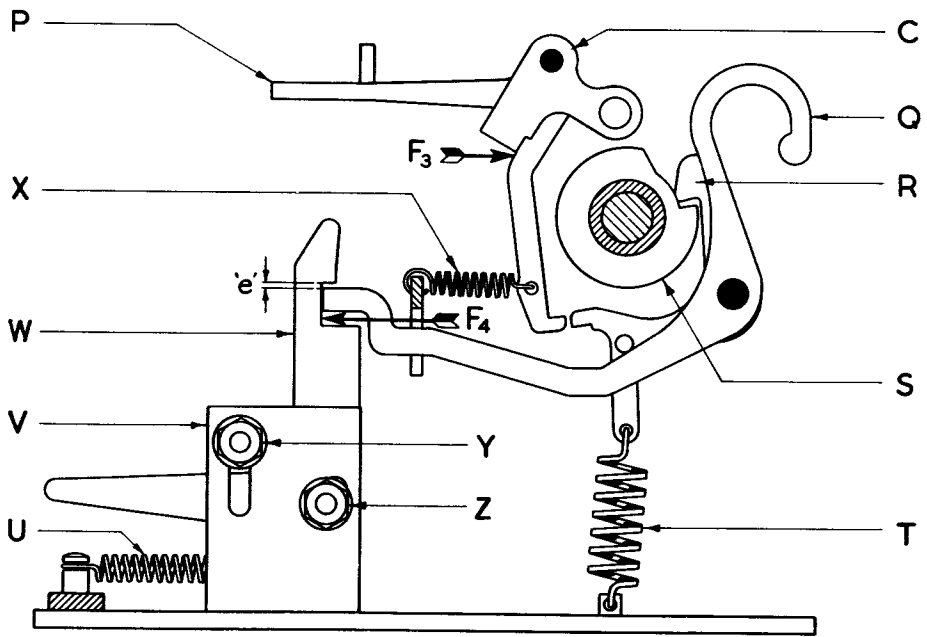
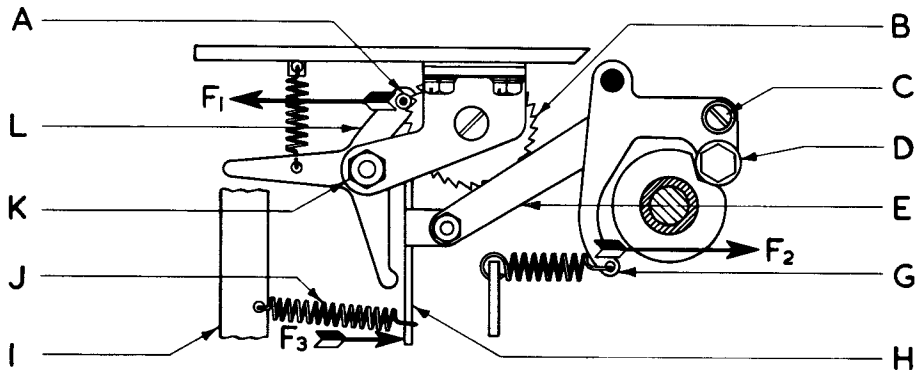

FIG. 6
FIG. 15
- (a) Pecker levers on pecker lever spindle - (P, Fig.6).
- (g) Engaging faces between the contact operating lever latch and the 'tape-out' contact operating lever. (On W, Fig.6).
6. Turn the camshaft to the rest position, then remove six pecker lever spring X, Fig.6, from their common anchor plate. Remove the spring from the foot of the pecker lever bail extension. Remove the spring from the foot of the vertical extension of feed follower G, Fig.15.